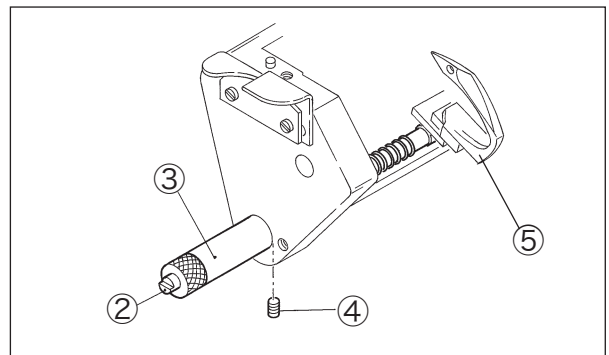

Fig. 1-7
- (1) Rotate the pulley to move the looper rocker shaft to the rearmost position.
- (2) Remove the looper cover spring support, and then insert the looper avoid gauge unit ① into its hole.
- (3) Press the bearing ③ forward so that the plunger ② is fully pushed out, and then fix it with the screw ④ . (Fig. 1-7)